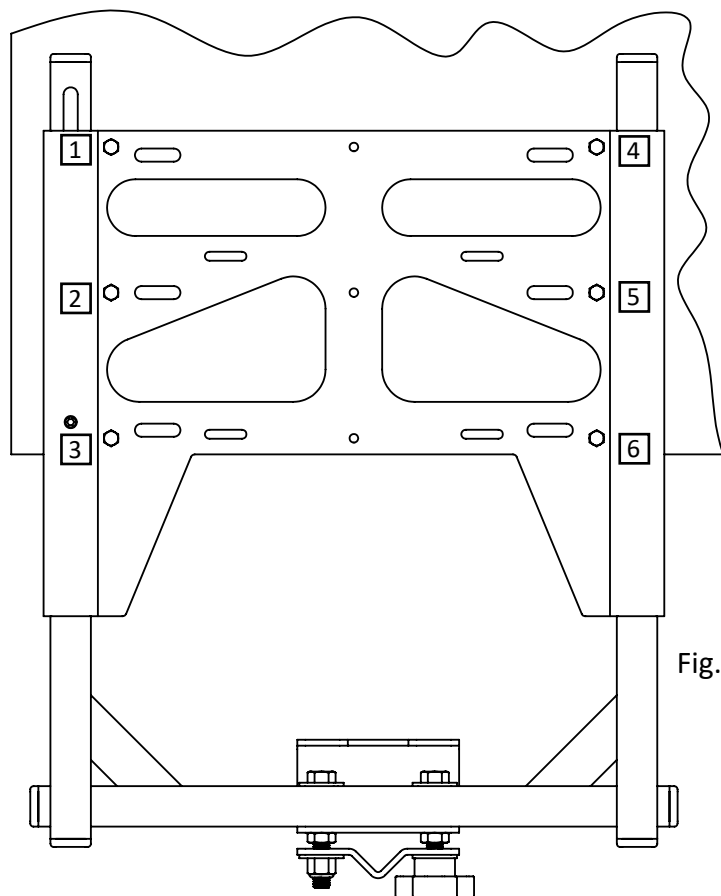

Fig. 6
1. Secure the Safety Sled to a work bench with six 1/4" lag screws* as shown in Fig. 6 & Fig. 7